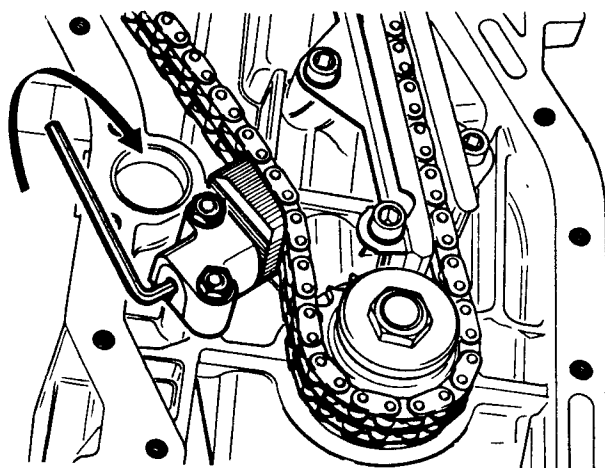

Fig.1.29 Using Allen key to withdraw tensioner pad from chain
- 3 Refer to Fig.1.29 and insert a 3 mm Allen key in the chain tensioner cylinder retaining screw, having first bent back the screw lock tab. Turn the screw in a clockwise direction until the pad